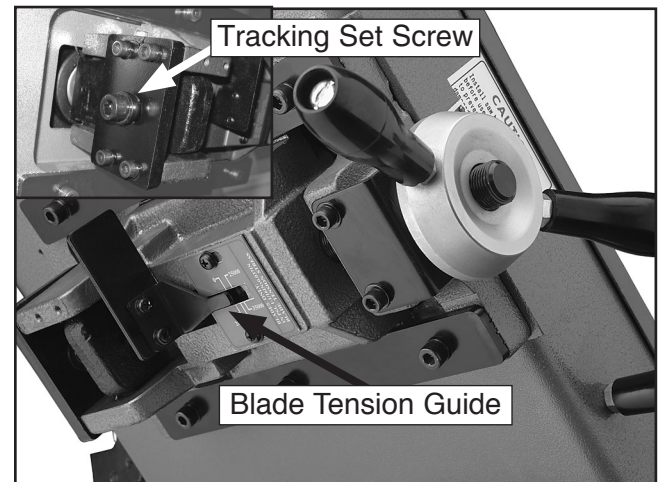

Figure 45. Blade tension guide.
- Use the graduated scale on the blade tension indicator (**Figure 45**) to determine blade tension in PSI.
- Turn the tracking set screw (hidden from view) in **Figure 45** until the blade is tracking properly.